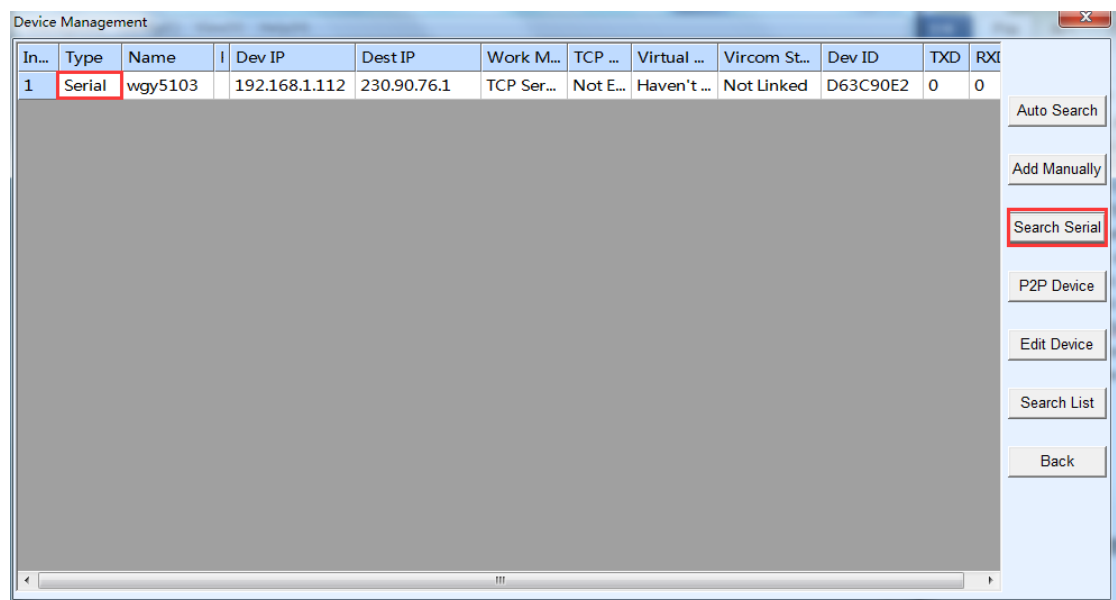

Figure 8 Serial Port Search Device
- b) User doesn't have photoelectric converter, connect RS232 port of 9153 to computer serial port or USB to RS232 port. As shown in figure 8, click "Search Serial", select the serial number in the pop-up dialog box, no need to select baud rate, and click ok. ZLVircom searches for 9153 through a serial port, the device will be listed in the list after being searched out, the type is "Serial". Then click "Edit Device" to enter the configuration of the device parameters.